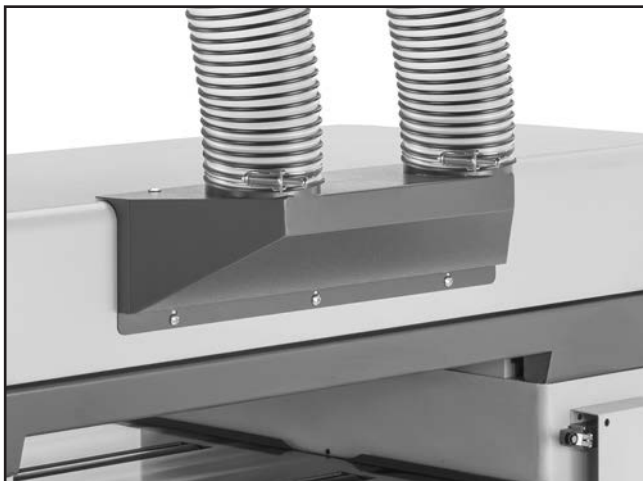

Figure 33. Dust hoses attached to dust ports (G0988 shown).
1. Fit (1) 5" dust hose over each dust port (see **Figure 33**), then secure each in place with a hose clamp.